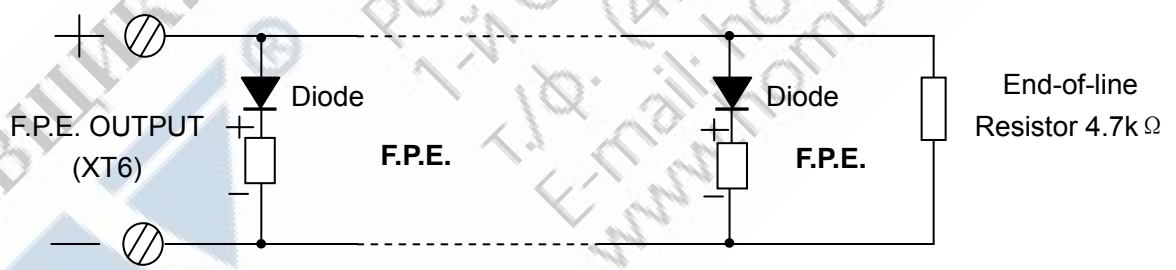

Fig. 4-5
F.P.E. output is shown in Fig. 4-5.